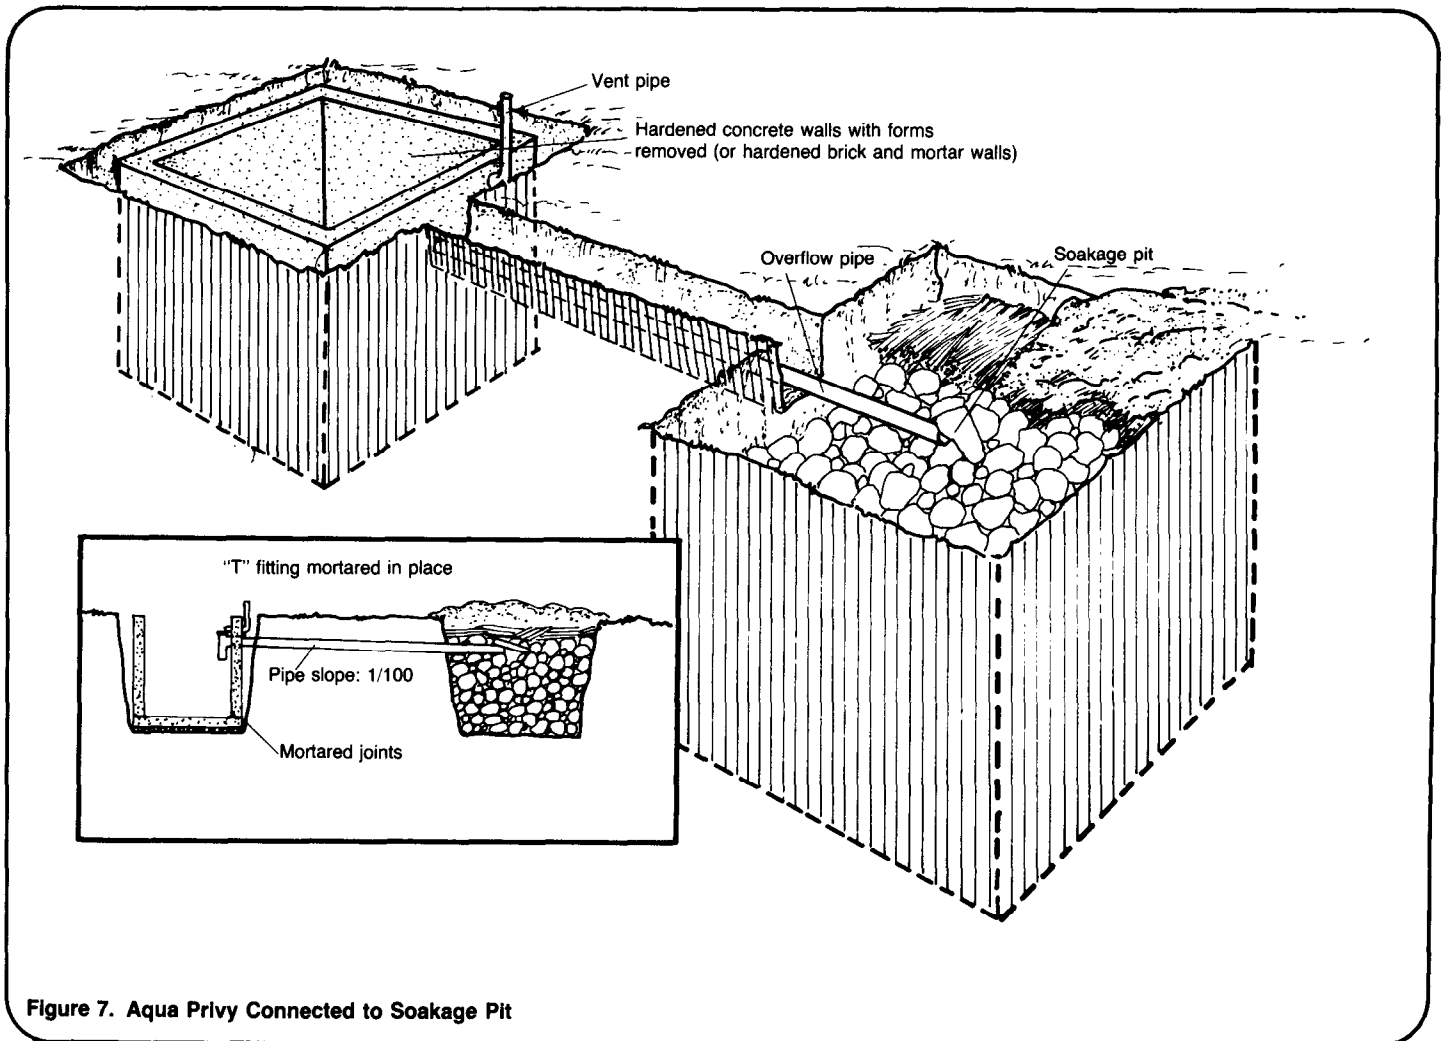

Figure 7. Aqua Privy Connected to Soakage Pit
16. Mortar the "T" fitting and overflow pipe in place. Attach about 0.6m of vent pipe in place. Mortar the joints between walls and floor. See Figure 7.
19. Excavate the soakage pit. See "Constructing, Operating and Maintaining Sumps, Soakage Pits and Trenches," SAN.1.C.7 for complete details. Remember that the effective depth of the soakage pit is measured downward from the end of the pipe, not from the surface of the ground. Fill in the pit with rocks, extend the pipe to the center of the pit, cover with straw, and mound with soil. See Figure 7.